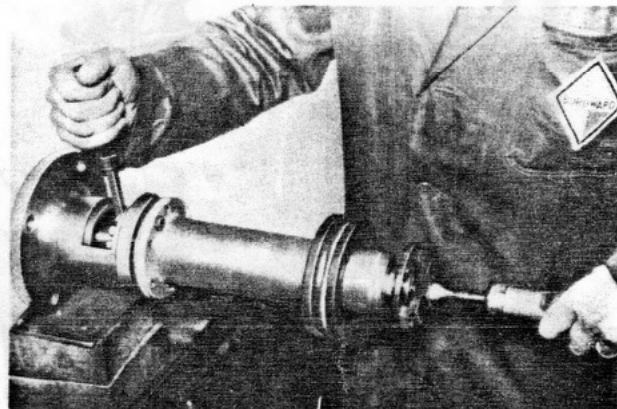

Fig. 13
15. Carry out fine adjustment. Loosen adjusting nut slightly. Turn pinion with torsionmeter fitted to flange, so that adjusting nut is drawn slowly up against the bearing (Fig. 13).